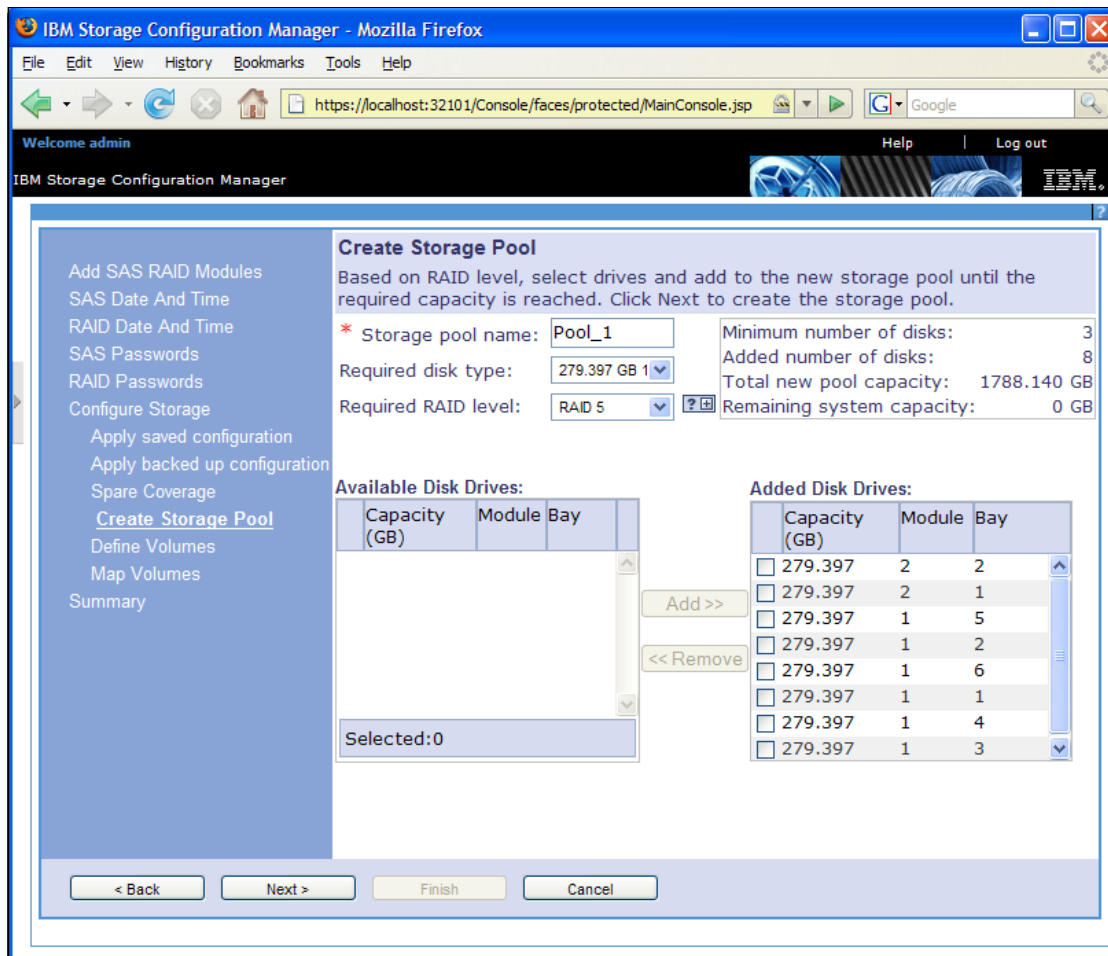

Figure 2-40 Create Storage Pool window
10. The “Create Storage Pool” panel (Figure 2-40 on page 60) assists in the creation of storage pools from the available disks. These disks can be a combination of disks from one or both internal storage modules, as well as any external units that are attached. We created one single storage pool, using all of the eight internal disks.